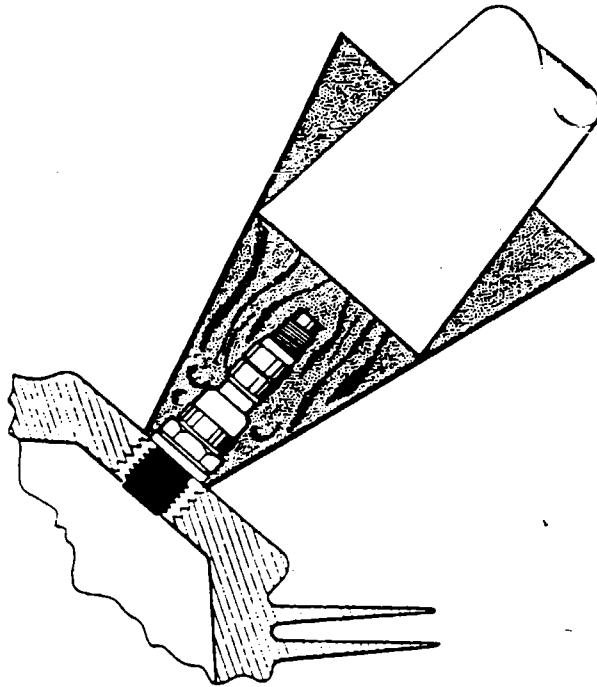

Figure 74-22. Removing Spark Plug Frozen to Bushing
4. Removal of seized spark; plugs in the cylinder may be accomplished by application of fluid carbon dioxide by a conical metal funnel adapter with a hole in the apex just large enough to accommodate the funnel of a CO2 bottle. (Refer to Figure 74-22.) When a seized spark plug cannot be removed by normal means, the funnel adapter is placed over and around the spark plug. Place the funnel of the CO2 bottle inside the funnel adapter and release the carbon dioxide to chill and contract the spark plug. Break the spark plug loose with a wrench. A warm cylinder head at the time the carbon dioxide is applied will aid in the removal of an excessively seized plug.